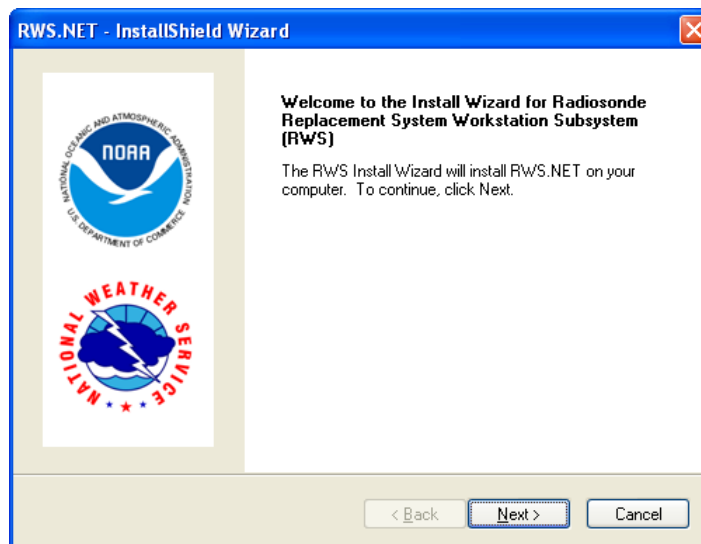

Figure B-8: RWS.NET - InstallShield Wizard
2. Insert the RWS Software CD (RWS.NET) into the RWS. The *RWS.NET - InstallShield Wizard* should automatically open (Figure B-8). If, after a few minutes, the program has not launched, browse the CD and double-click on **setup.exe**.